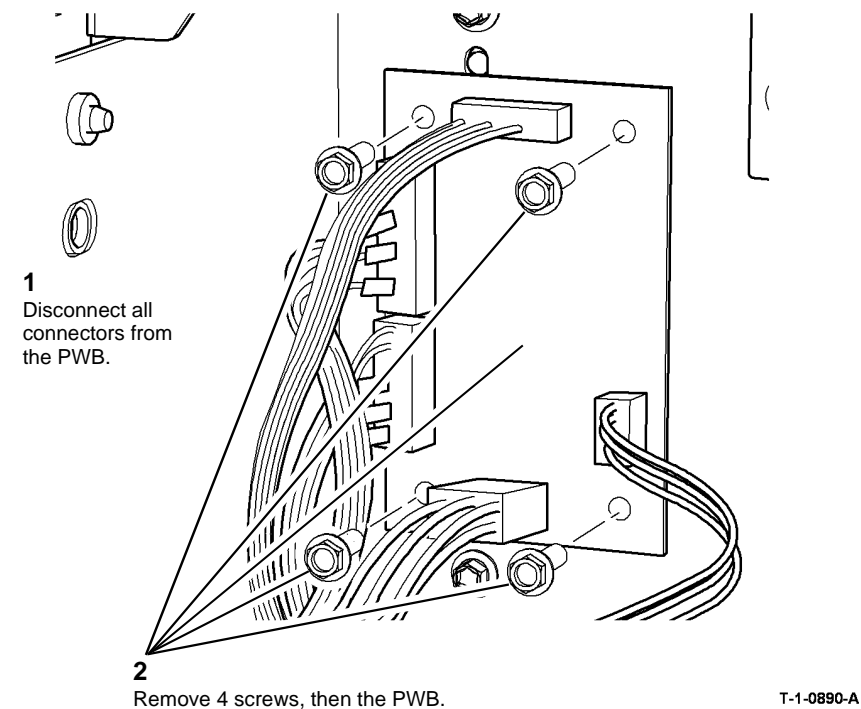

Figure 1 PWB removal
2. Disconnect the PJs, then remove the PWB, Figure 1.